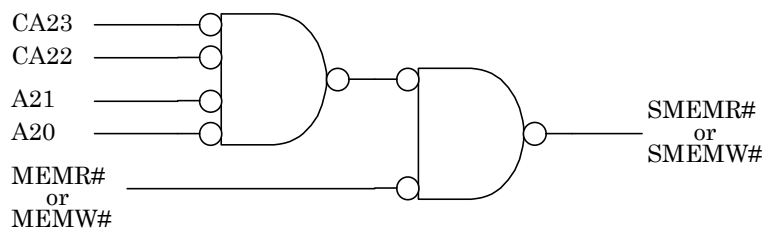

Fig. 3-2 Block diagram for generating SMEMR#/SMEMW#
- (#3) A block diagram for generating SMEMR# and SMEMW# externally is shown in Fig. 3-2.